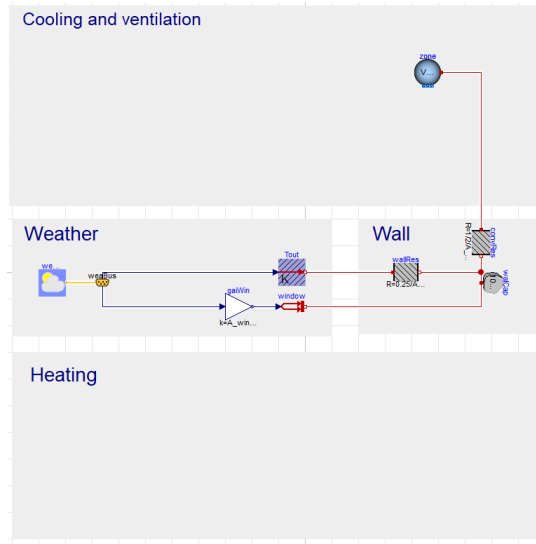

Figure 4: Simple house model with a wall, a window, and an air model.
**Connection instructions** The `MixingVolume` *Medium* parameter contains information about the type of fluid and its properties that should be modelled by the `MixingVolume`. Set 3 its value to *MediumAir*, which is declared in the template. For the nominal mass flow rate you may assume a value of  $1\text{ kg}/\text{m}^3$ . You will have to change this value once you add a ventilation system to the model (part 6). Finally, set the *energyDynamics* of the `MixingVolume`, which can be found in the *Dynamics* tab of the model parameter window, to *FixedInitial*. Your model should now look like Figure 4.